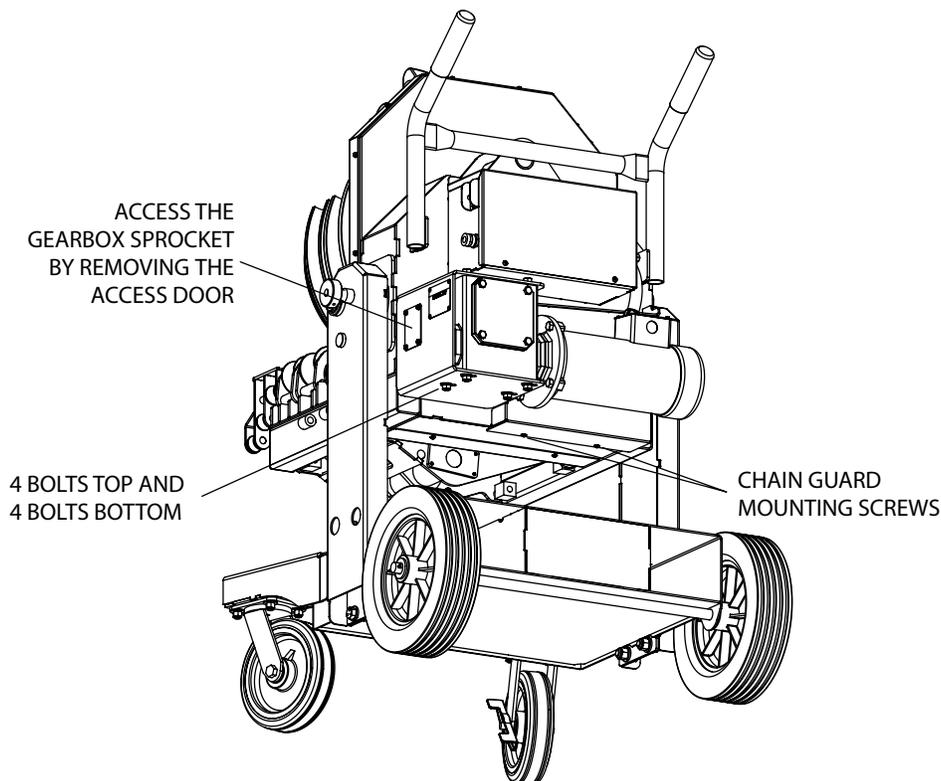

Figure 28
- Check chain tension after an initial break-in period of 2 - 3 hours of use and tighten per the instructions below. See Figure 28. Thereafter, inspect monthly.